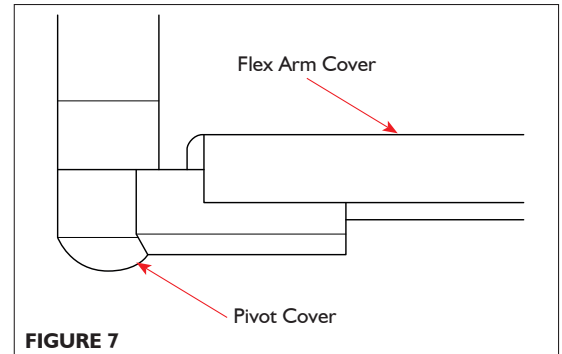

FIGURE 7
12. Reinstall the flex arm cover and the pivot cover to the flex arm. **Figure 7**